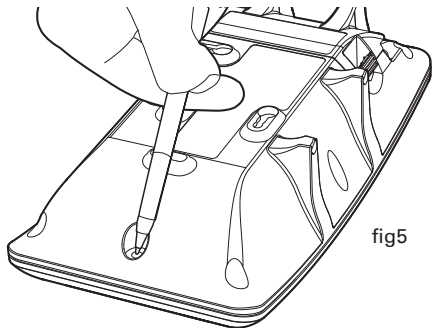

fig5
2. Briefly push and release the learn button located in a circular hole in the back of the Low Frequency Sounder  using a pen, or similar as shown (fig 5).
Frequency Sounder using a ball point pen or similar as shown (fig 5). The two red alarm LEDs on the front of the Low Frequency Sounder will illuminate as you push the button.